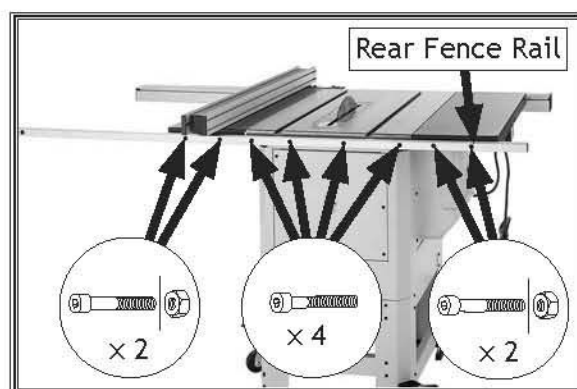

Figure 26. Mounting rear fence rail.
15. Install rear fence rail on rear of table using (8) M8-1.25 $\times$ 25 cap screws, as shown in **Figure 26**. Secure outer four cap screws with M8-1.25 hex nuts.